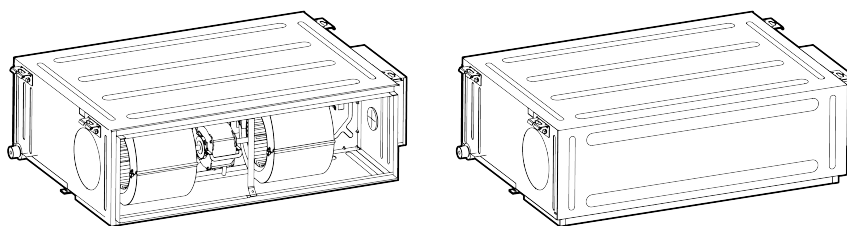

Fig.4.4.6
- (1) The default installation location of the rectangular flange is at the back and the return air cover plate is at the bottom, as shown in Fig.4.4.6.